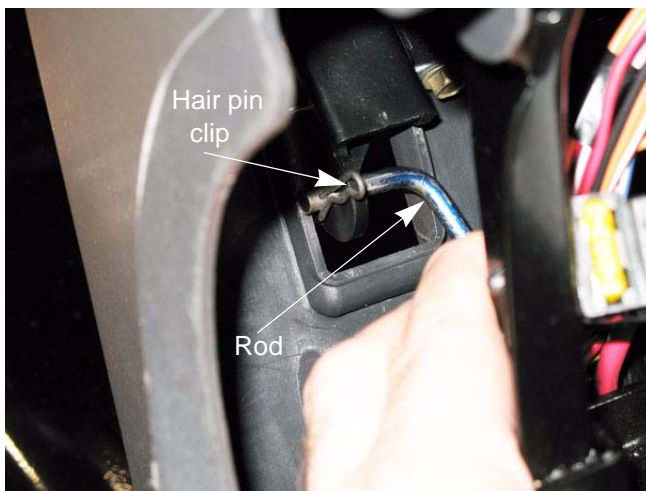

Figure 4.10
- 2b. Disconnect the parking brake by removing the hair pin clip and sliding the rod out of the lever. See Figure 4.10.